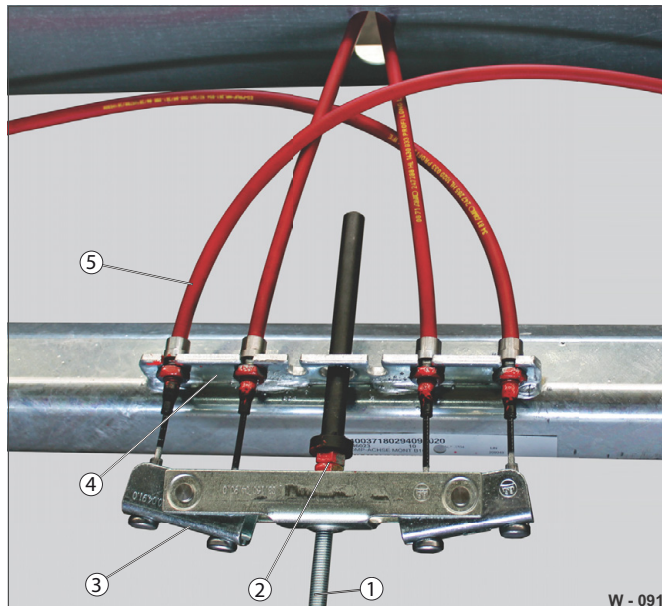

Fig. 62 Example: Brake compensation
The pull rod (Fig. 62 /1) must be pulled all the way out and the handbrake must be completely released!
- Undo the transmission device on the compensation bar (Fig. 62 /3) - undo hexagon nut / lock nut (Fig. 62 /2).
- Check the Bowden cable play on the axle abutment (Fig. 62 /4) - approx. 5 mm.